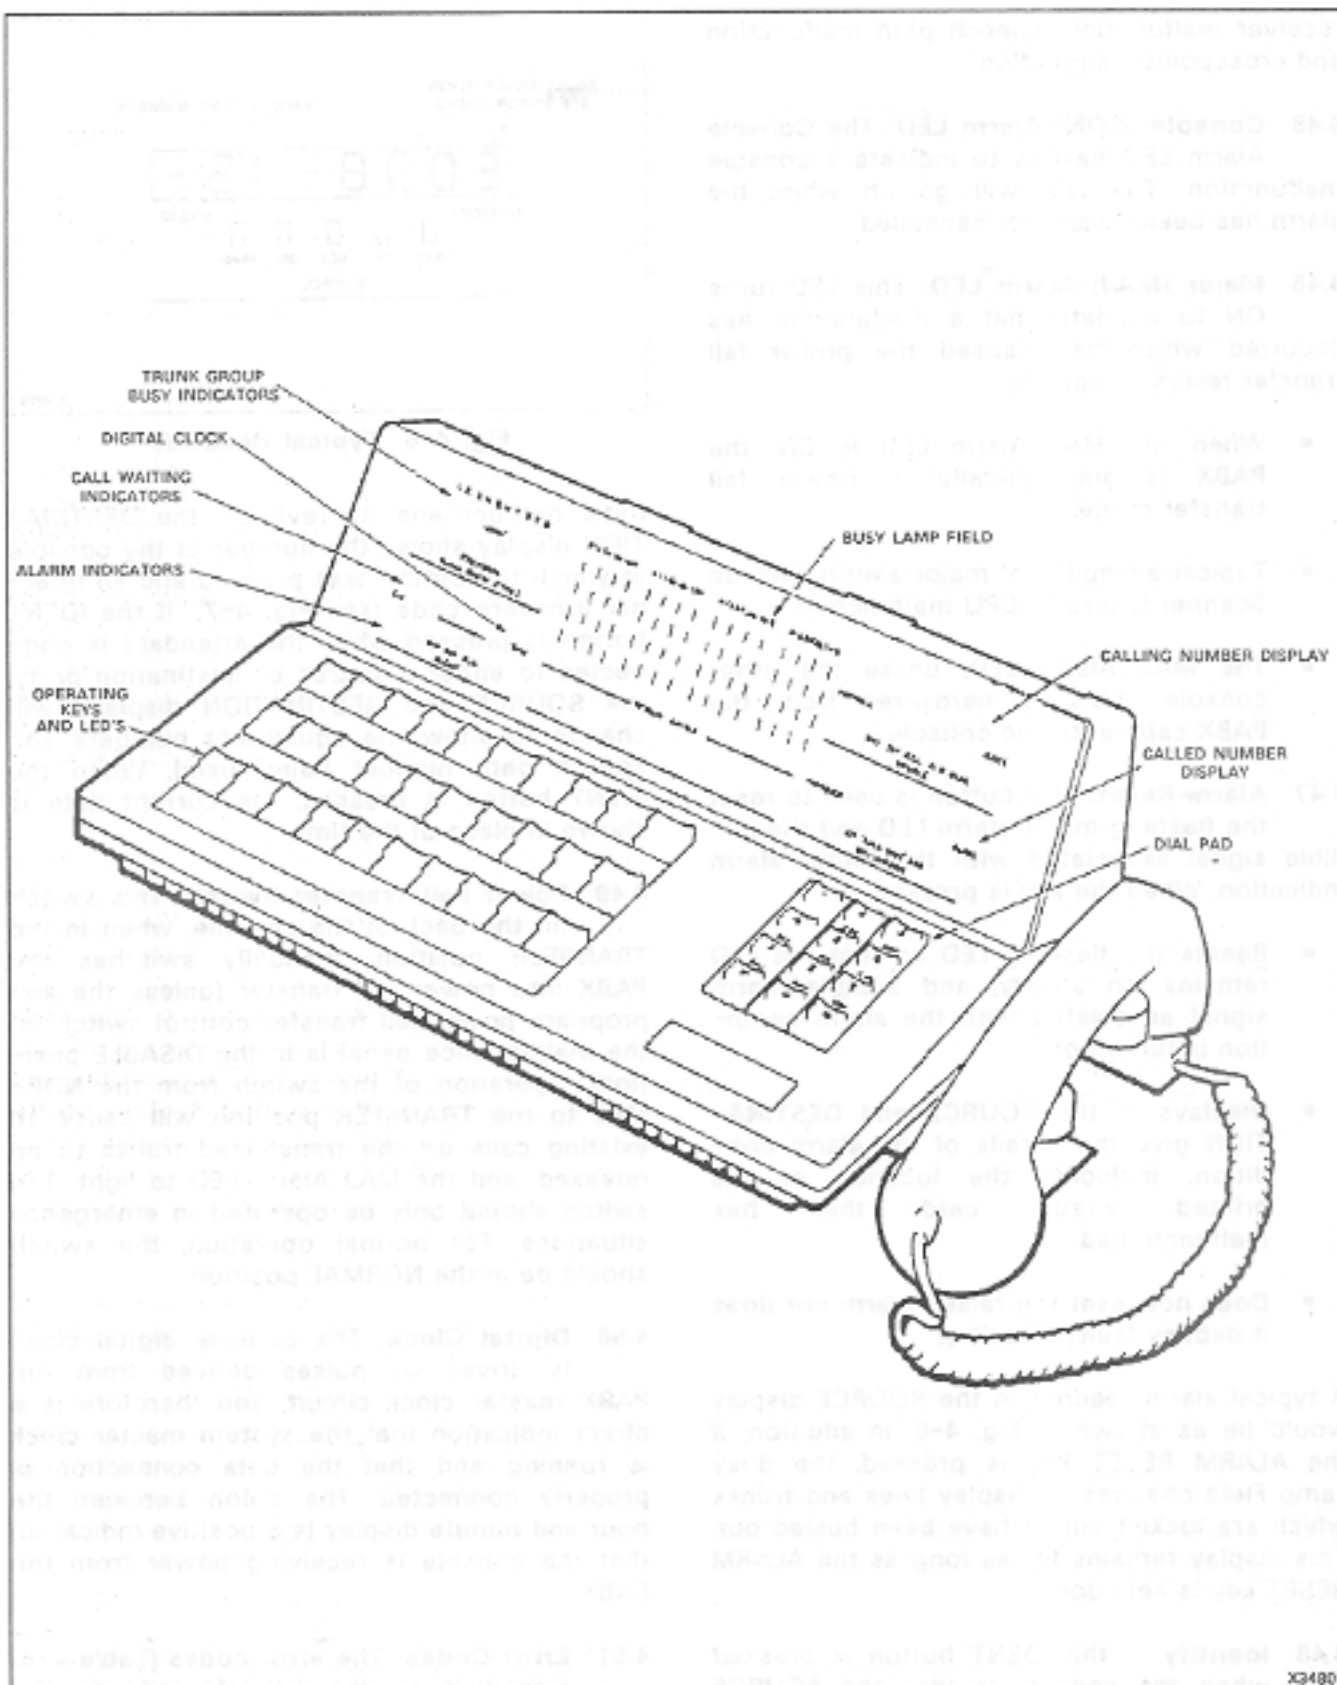

Fig. 4-5 Attendant Console
4.43 Each attendant console (Fig. 4-5) is equipped with a number of maintenance aids and keys which are associated with maintenance functions. The following paragraphs describe the function of each LED and key.